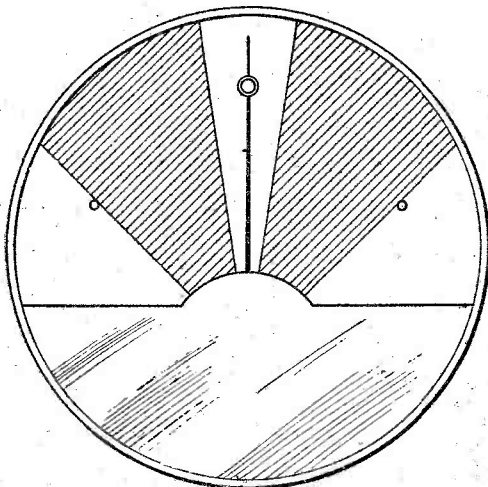

Fig. 30.—"Blind" meter, with central white permissible sector, the rest of the dial coloured red for rejects.
3. Semi-automatic boards designed for rapid operation by unskilled workers on one type of valve only. This kind of board has pre-set voltages and current indications are taken either from relay-operated coloured lamps or "blind" meters having a white or green "permissible" sector, with red "reject" sectors on each side. Fig. 30 shows a type of blind meter requiring negligible skill to read it.